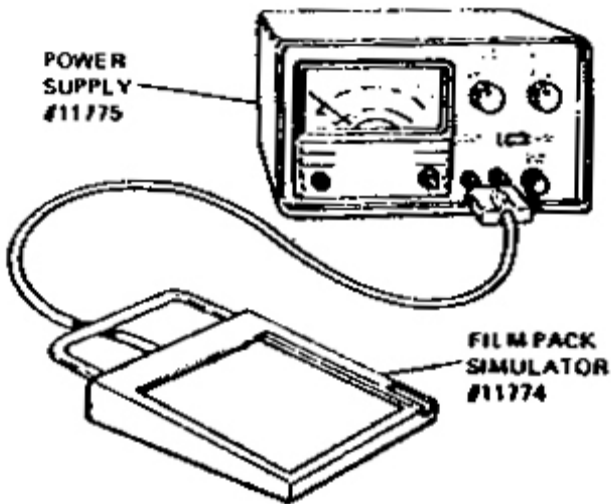

Figure 3-1 Film pack simulator and power supply
1. Power supply and pack simulator (Figure 3-1)